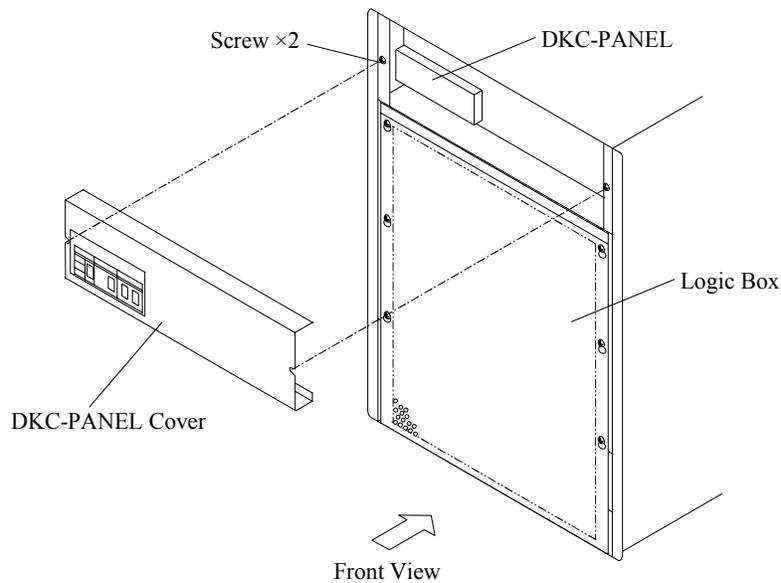

Fig. T1-1 Removal of DKC-PANEL Cover
- a. Attach the DKC-PANEL cover and fasten the two screws. Refer to Fig. T1-1.